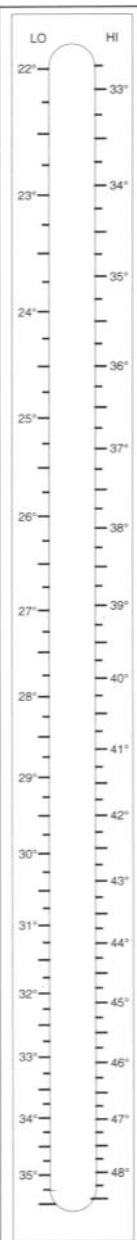

Fig. 12: Example of Standard Tripod Leg Latitude Scales.
- The #880 Table Tripod is equipped with two adjustable tripod legs: The *standard tripod leg* is used at observing latitudes as shown in the box in step 4 and has a dual latitude label attached (Fig. 12). The *high-latitude tripod leg* is shorter and is used at higher observing latitudes.